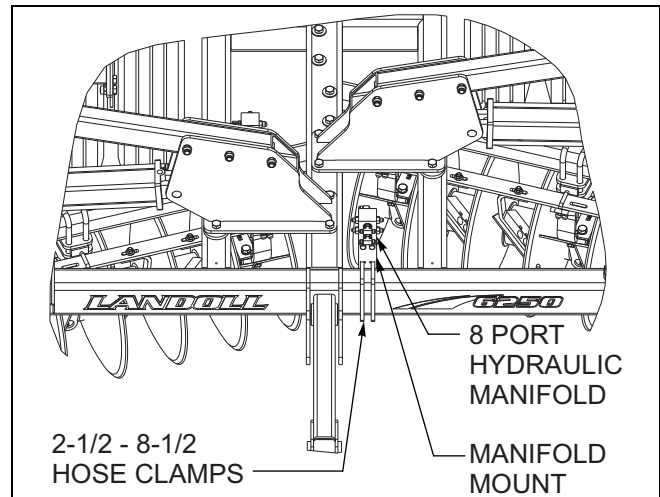

Figure 3-30: Mounting the Manifold Bracket
6. Attach yellow reflector decals on outer arms **(See Figure 3-30.)** The decals are located in the manual tube. Reflector decal locations also shown on **pages 2-6 thru 2-17**.
7. Install manifold mount to rear of center frame with hose clamps just to the right of the center arm mount (**See Figure 3-30.**) Install the manifold to the mount using 1/2-13 x 3-1/2 hex head cap screws and hex lock nuts.